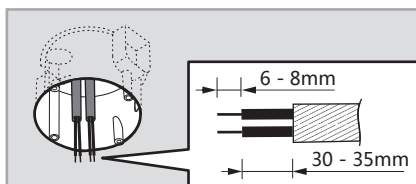

FIG.10
- Pull out AC power cables from European standard junction box then strip off 6 - 8mm of cable sheathing for wiring (See FIG.10).